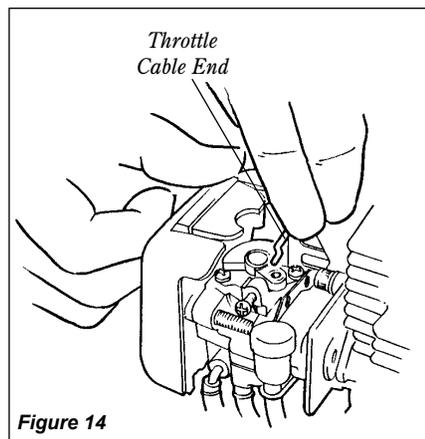

Figure 14
- Connect the Z-shaped end of the throttle cable to the throttle lever on top of the carburetor as shown in Figure 14.